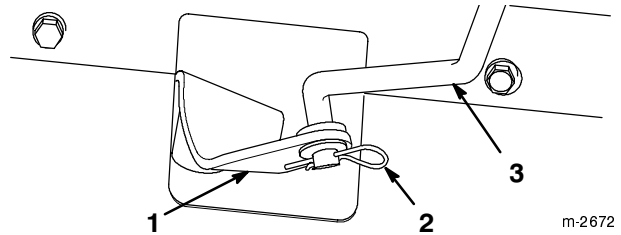

Figure 26
- Remove the cotter pin and flat washer. Pull the speed selector rod out of the hole in the speed selector arm (Fig. 26).